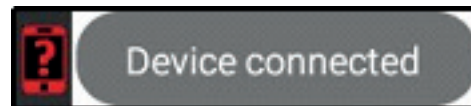

Figure 3-2: Connection Status
**“Connection to Device Status”** displays the current status of the device (Figure 3-2). May also be selected using the icon depicting a device with a question mark on the top bar.